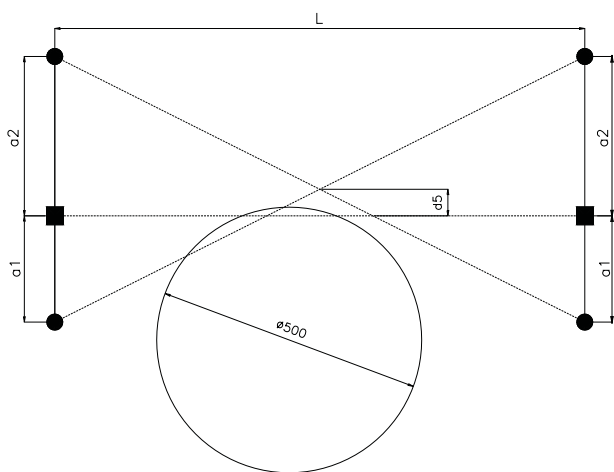

Figure 9
- The 500 mm opaque cylindrical test object activates a muting sensor and the safety light beam before activating the second muting sensor. Thus the muting function is not activated, and the safety outputs of the light curtain are activated (see Figure 9).